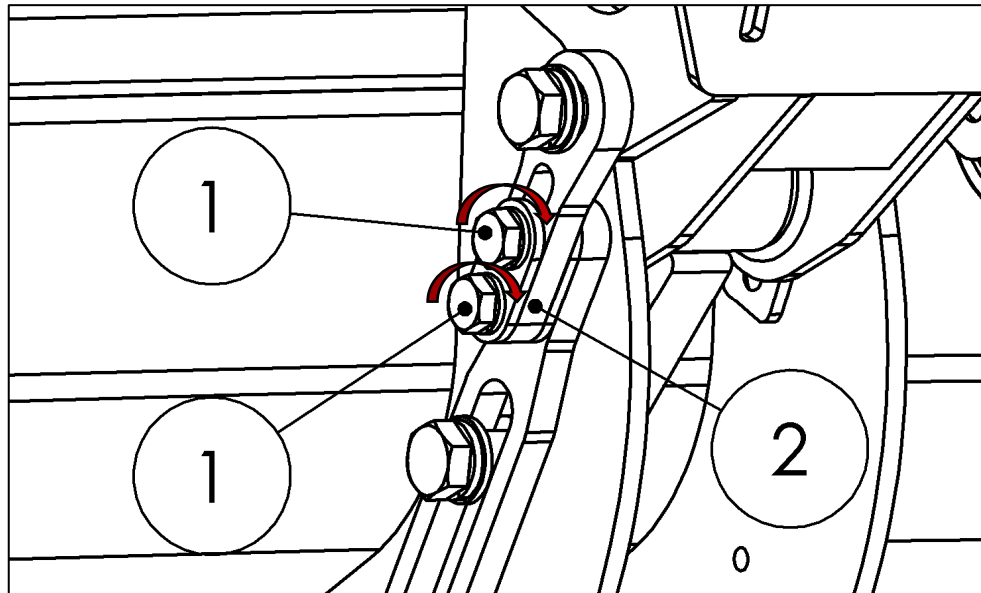

Fig. 77
- Retighten the 2 screws (1) on the clamping plate (2) on the platform stop to a torque of 195 Nm (see Fig. 77).